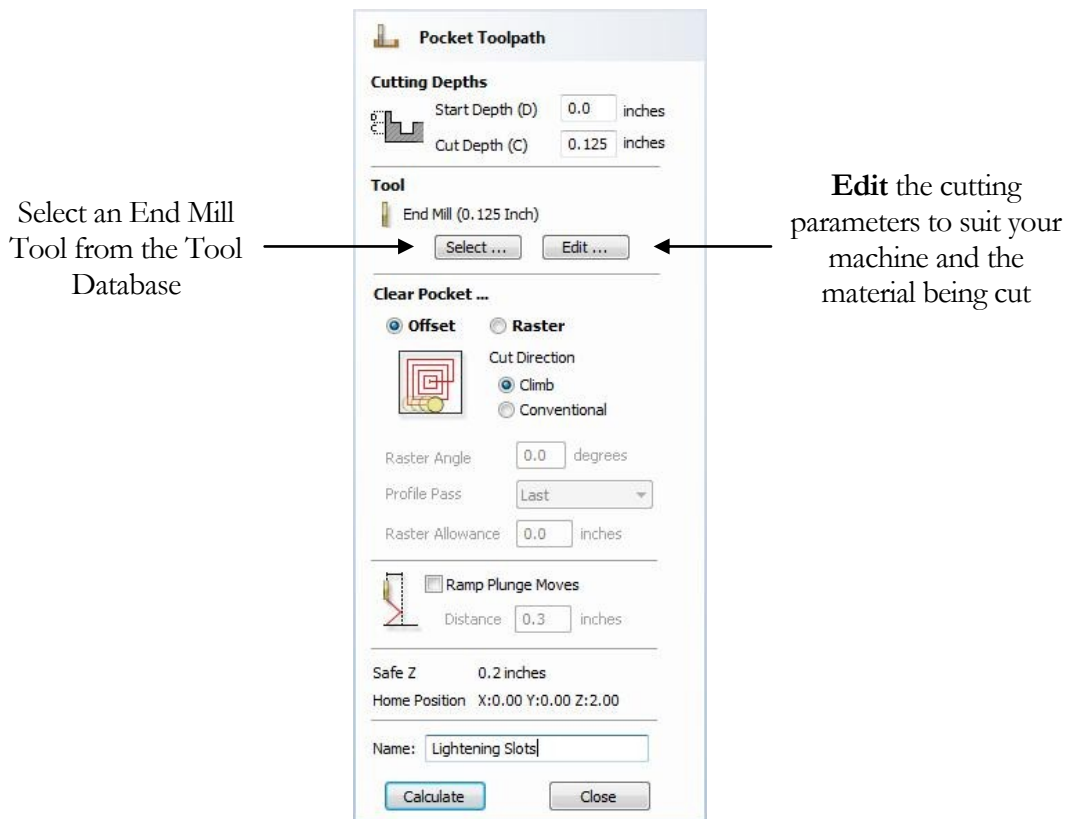

Figure 12. Pocket Toolpath parameters
7. Next, select the **Create Pocket Toolpath**  icon from the **Toolpath Operations** list and complete the form as shown below in Figure 12.